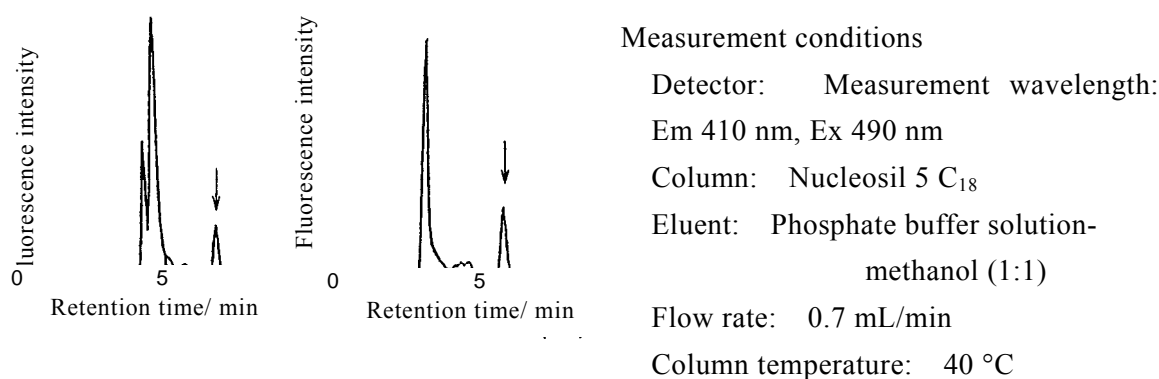

Fig. 8.1.10-5 A chromatogram of sulfaquinoxaline
- [7] An example of chromatogram is shown in Fig. 8.1.10-5.